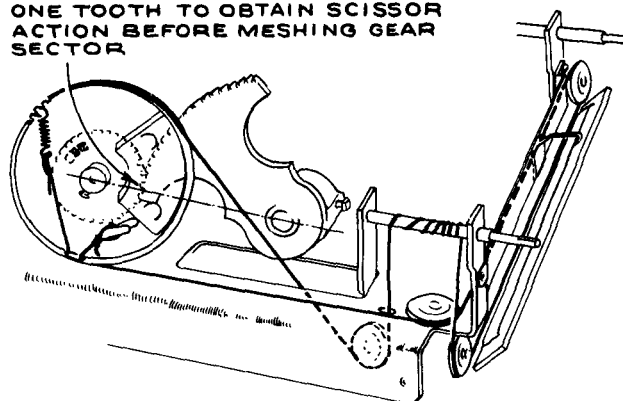

Fig. 6—Drive Cord Hookup
1. With the gang condenser in full mesh, the sector gear should have the two end teeth fully meshed in the scissor gear, as shown in Fig. 6.